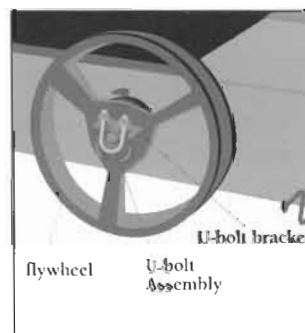

Figure 4
5. Fit the U-bolt assembly into the U-bolt bracket. The bend in the "U" should be toward the floor (Figure 4).